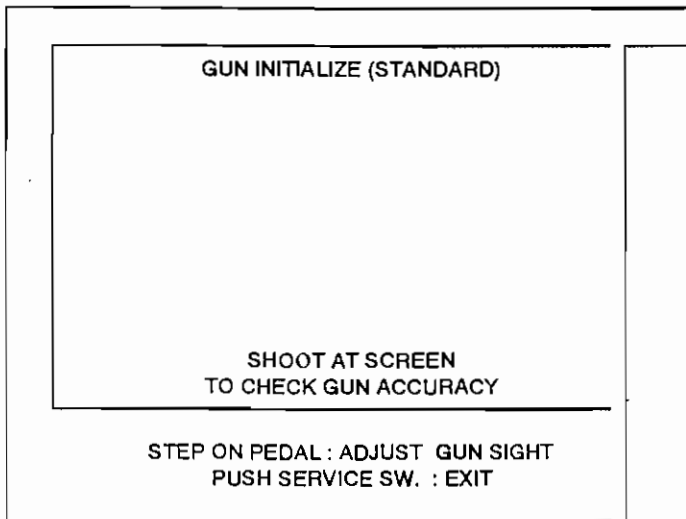
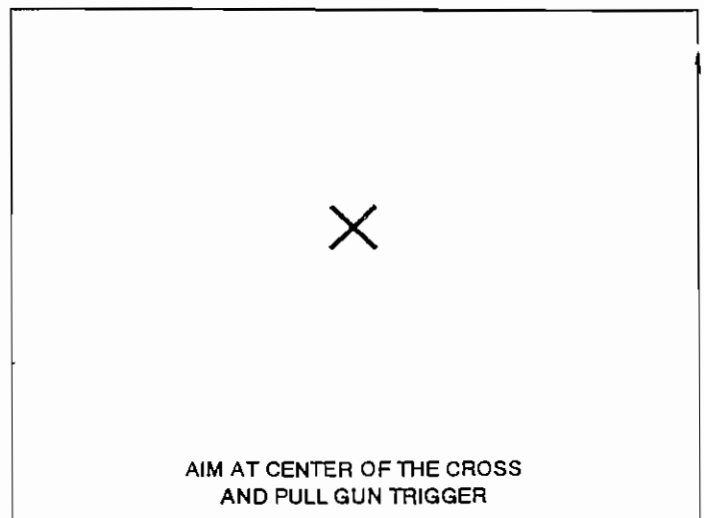
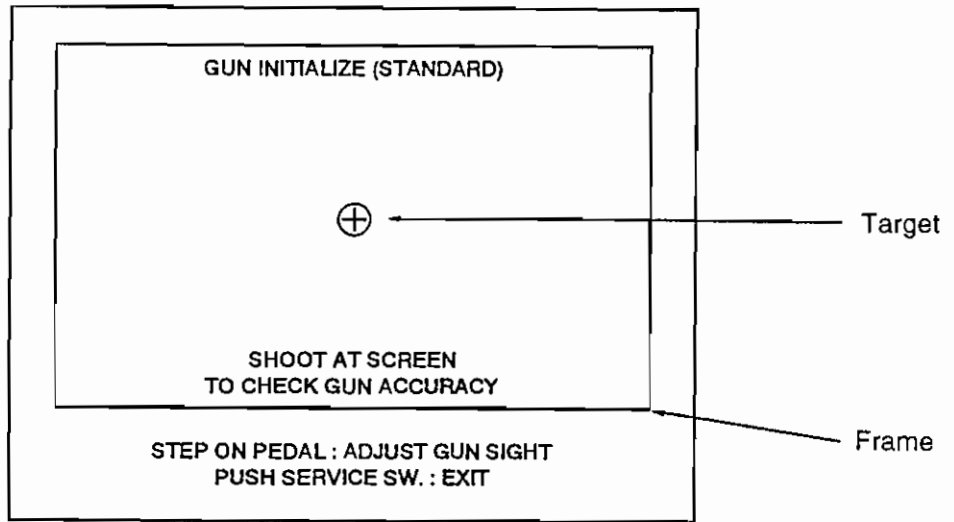

Fig. 6.14 Gun Initialization Screen 1
Fig. 6.15 Gun Initialization Screen 2
Fig. 6.16 Gun Initialization Screen 3
- 3) If gun initialization (standard) is selected and set (the pedal is stepped on), the gun initialization screen shown in the figure below is displayed. (Fig. 6.14)
- 4) Step on the pedal while the screen shown in Fig. 6.14 is displayed. The screen shown in Fig. 6.15 is displayed. Aim and shoot the gun at the "X" in the center of this screen. The gun is initialized.
After the gun has been shot, the screen returns to the screen shown in Fig. 6.14.
- 5) On the screen shown in Fig. 6.14, aim and shoot the gun at the screen and a target will appear (see Fig. 6.16). Make sure that the target appears at the location where the gun is aimed and shoot at.
- 6) On the screen shown in Fig. 6.16, make sure the gun can shoot everywhere within the frame. If the gun is not initialized properly, step on the pedal to return to the screen shown in Fig. 6.15, and initialize the gun again.